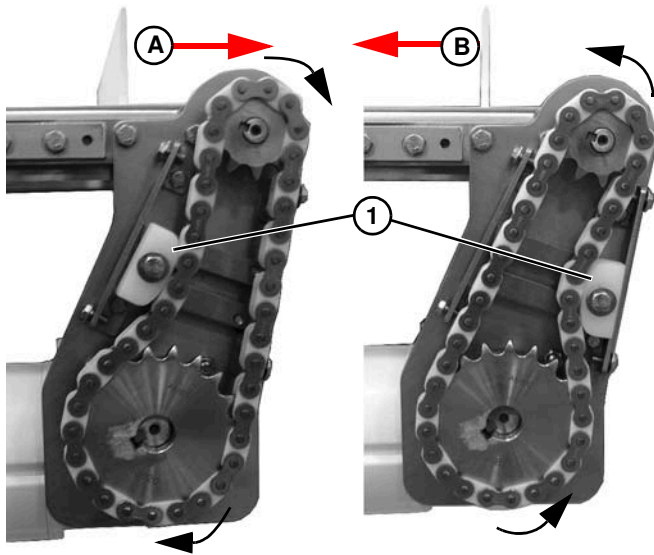

Figure 57
9. Depending on conveyor belt travel (direction A or B of **Figure 57**), locate timing chain tensioner (**Figure 57, item 1**) as shown. Do not tighten tensioner screw.